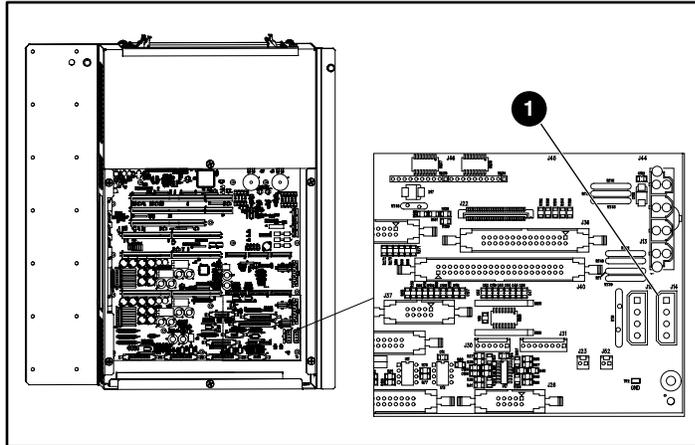

Figure 6: Connecting to J14
- ❶ Electronics cover
5. Route the fan power cable in the PCI chassis (see Figure 6):
6. Plug the fan assembly into J14 on the PCI backplane (see Figure 6).